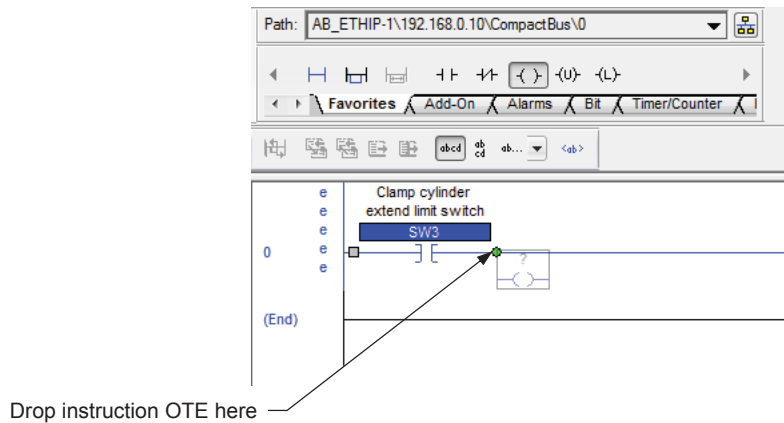

Figure 102. Adding an Output Energize instruction.
14. Drag and drop an Output Energize (OTE) instruction as shown in Figure 102.